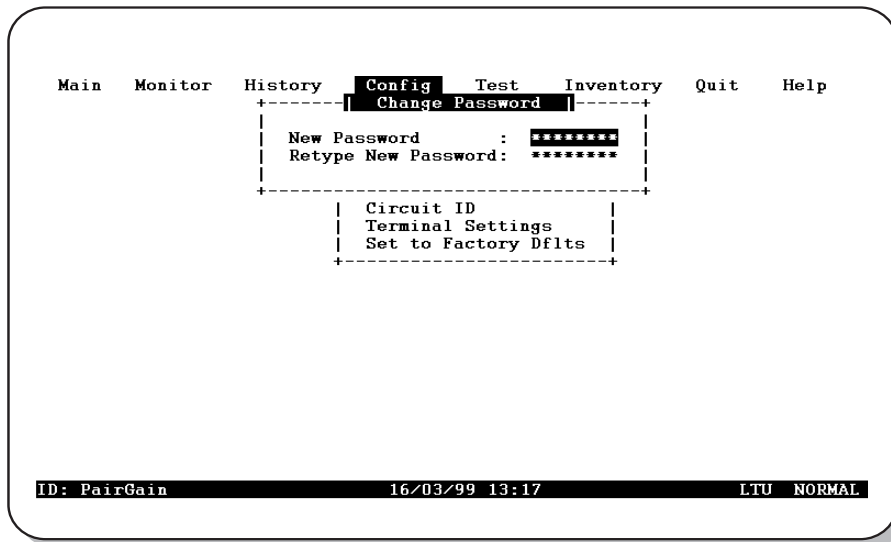

Figure 21. Config Change Password Menu
- 1 Type **P** at the *Config* drop-down menu to display the *Config Change Password* menu (Figure 21).